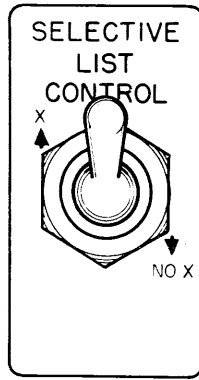

FIGURE 46. SELECTIVE LIST SWITCH
3. *Selective Listing.* When the accounting machine is wired for group printing, the selective list feature can cause distinctively punched cards to detail print. Selective listing is controlled by a selective-list switch (Figure 46). When the switch is set to X, all X or digit punched cards are detail printed; when set to NO X, all No X or no digit cards are detail printed. When the machine is wired for both automatic control and selective listing, the first card of each control group will also print, regardless of the distinctive punching for selective listing.